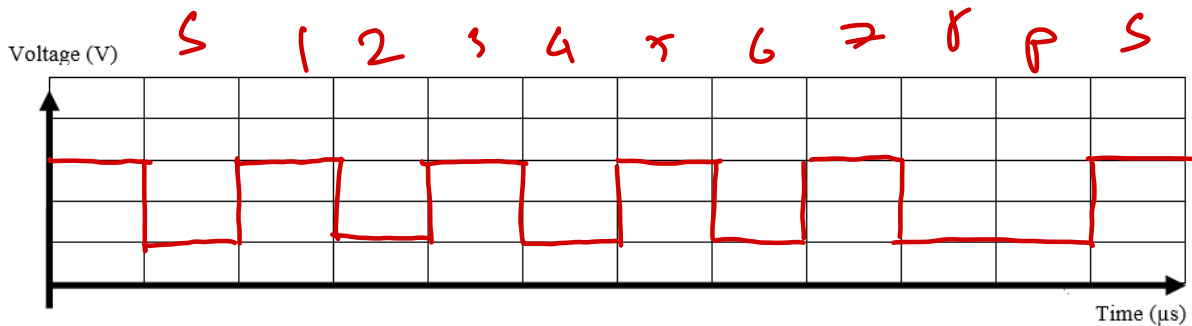

Fig. 15: Acquired Waveform for capitalized letter 'U'. Serial.begin(19200, **SERIAL_8E1**).
- Plot the waveform for the following configuration in Fig 15, 16 and 17. Identify the START bit, STOP bit(s) and the data payload. Also include the timing information, i.e. duration of one UART bit width.
- What is the difference between the waveform in Fig 15 and 17? *Squash, f x 2*